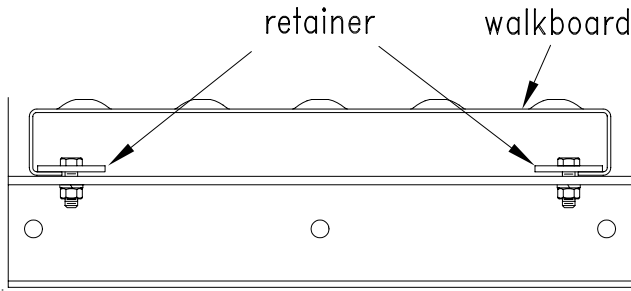

Figure 6
6. Position Walkboard (#12) on supports and secure with retainers (#13), 3/8" x 1 1/4" long hex bolts (14), 3/8" lock washers (#15) and 3/8" nuts (#16). Refer also to Figure 6.